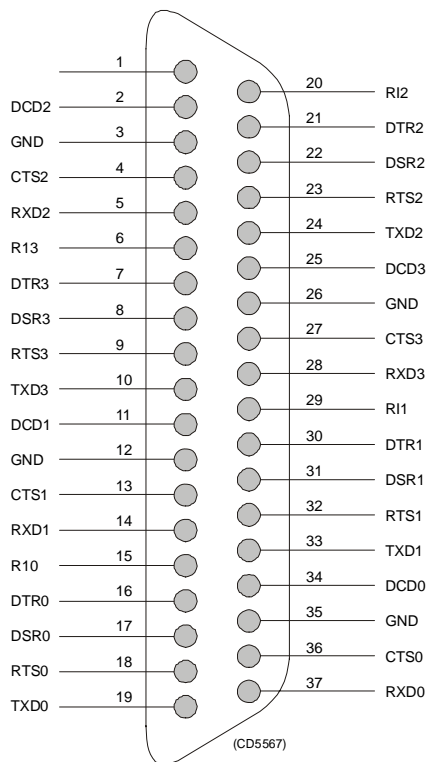

Figure 18 DB-37 pin assignment
- Refer to figure 18 and 19 for pin assignments.